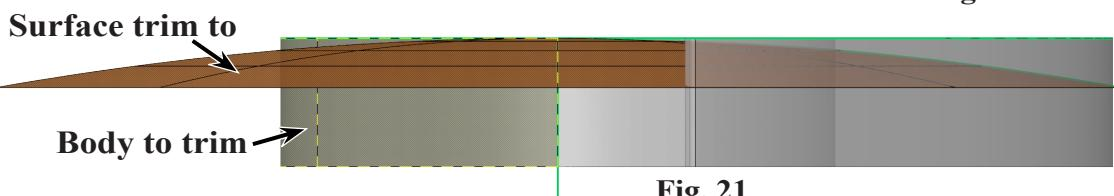

Fig. 21
Step 2. Click solid body below the surface as body to trim, Fig. 21.
Step 3. Click surface as surface or sheet trim to, Fig. 21.